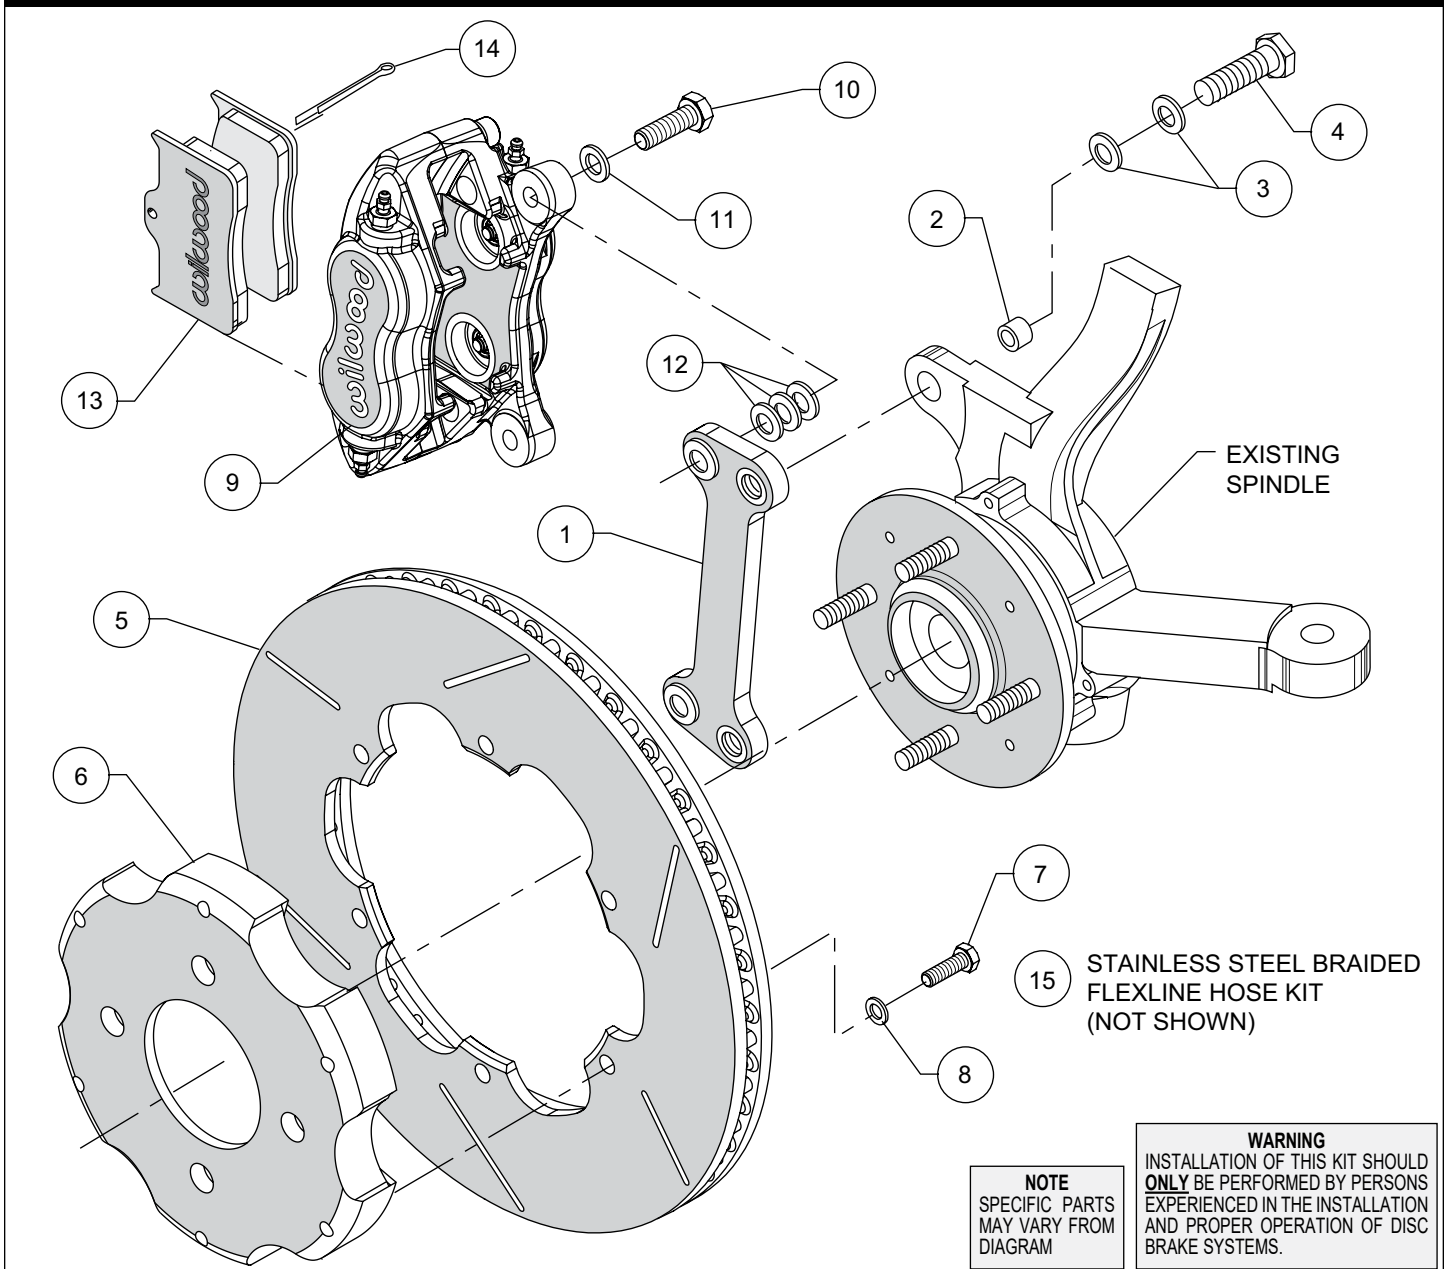
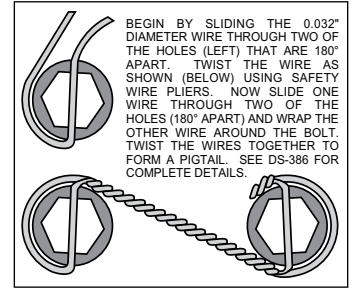

Figure 1. Typical Installation Configuration, Left Hand Application Shown
Figure 4. Safety Wire Diagram
NOTE: Numbers in parenthesis refer to the parts list and Figure 1 on the preceding pages.
- Insert sleeves (2) into each of the two bracket mounting holes on the spindle "ears", Figure 1. Orient the caliper mount bracket (1) as shown in Figure 1, and install using bolts (4) and two washers (3). Ensure that the flanged heads of the clinch nuts in the bracket are facing outboard. Temporarily tighten the mounting bolts. **NOTE:** The bracket must fit squarely against the mount bosses on the upright. Inspect for interference from casting irregularities, machining ridges, burrs, etc. Remove bolts one at a time, apply red *Loctite*® 271 to the threads and torque to 40 ft-lb.
- Orient the rotor (5) and the hat (6) as shown in Figure 1 and Photo 1. Attach rotor to hat using bolts (7) and washers (8). Apply red *Loctite*® 271 to the bolt threads and torque to 25 ft-lbs using a criss-cross pattern. Safety wire bolts using standard 0.032 inch diameter stainless steel safety wire as shown in Figure 4. Please refer to Wilwood's data sheet DS-386 (available at www.wilwood.com/Pdf/DataSheets/ds386.pdf) for complete safety wire installation instructions.
- NOTE:** Please reference the caution statement at the beginning of the assembly instructions. Mount the caliper (9) onto the caliper mounting bracket (1) using bolts (10) and washers (11), as shown in Figure 1. Initially place three .035" thick shims (12) on each bolt between the caliper and the bracket, Photo 2. Temporarily tighten the mounting bolts and view the rotor (5) through the top opening of the caliper. The rotor should be centered in the caliper, Photo 3. If not, adjust by adding or subtracting shims between the bracket and the caliper. Always use the same amount of shims on each of the two mounting bolts. **NOTE:** The end of each bolt must be flush with or slightly protruding from the head of the
at a time, apply red *Loctite*® 271 to bolt threads, and torque to 40 ft-lb. For an added measure of safety, bolts may be safety wired using standard 0.032 inch diameter stainless steel safety wire as shown in Figure 4. Please refer to Wilwood's data sheet DS-386 (available at www.wilwood.com/Pdf/DataSheets/ds386.pdf) for complete safety wire installation instructions.